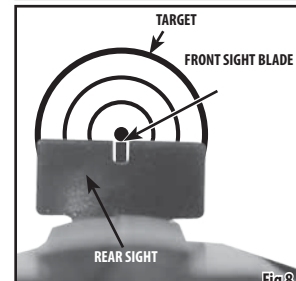

Fig 8
- The air rifle is correctly aimed when the front sight blade is positioned exactly in the center of the notch of the rear sight. The top of the front sight blade should be even with the top of the notch in the rear sight. The bulls-eye should appear to rest on the top of the front sight. (Fig. 8)